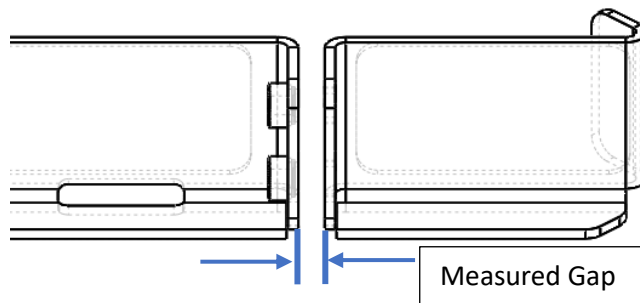

Figure 2: Tension Bar Gap
11. Loosely bolt short hook bracket to tension bar using two (2) 5/16"-18 x 1" Button Head Bolt fasteners [PN 70344] (Figure 2 and 3).